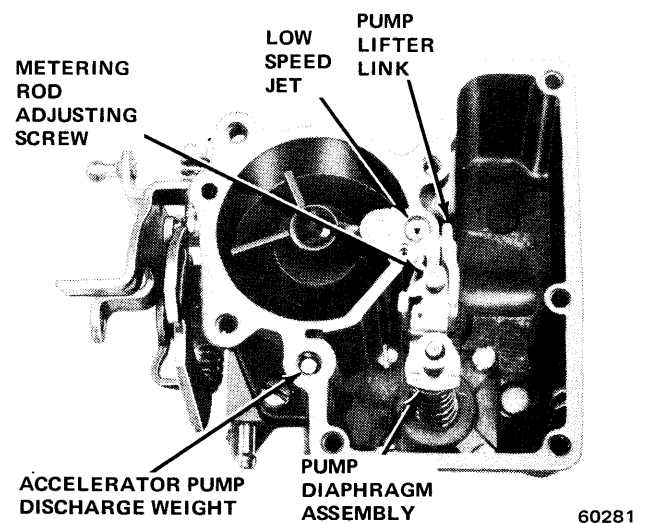

Fig. 4-26 Interior View of Fuel Bowl
(1) Position replacement body flange gasket and main body casting on throttle body flange. Install attaching screws and tighten evenly.
(2) Install low speed jet and metering rod jet (fig. 4-26).
(3) Install pump diaphragm in pump diaphragm housing.